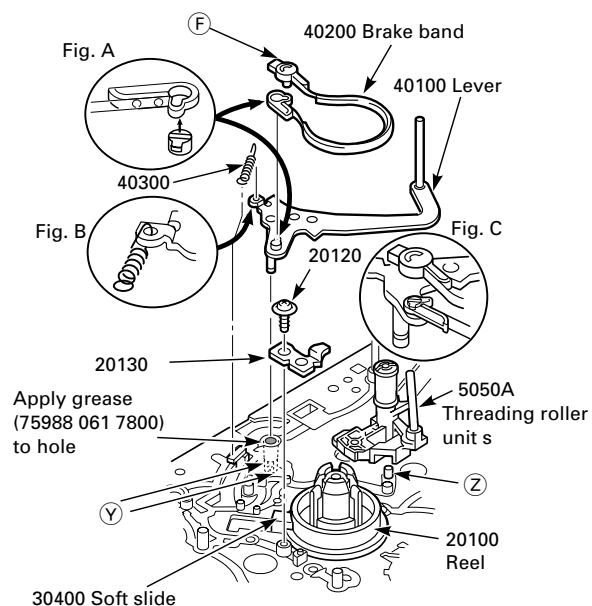

Fig. 8.15
- Undo the screw (20120) and remove the mounting clip of the brake band (20130, Fig. 8.15).
- Disengage the clamp ③ and remove the brake band (40200, Fig. 8.15). Then adjust the other end of the brake band (40200) to the protrusion of the lever as shown in Fig. A and take it off (Fig. 8.15).
- Disengage the hook ④ on the bottom of the cassette mechanism and pull the brake lever out of the guide bushing.
- Grease the guide bushing as shown in Fig. 8.15 (75988 061 7800) and engage the tape tension lever between the threading carriage and the end stop ⑤ into the guide bushing. Hook in the spring (40300) as shown in Fig. B.
- The ends of the brake band must be positioned as shown in Fig. C (Fig. 8.15).
- Undo the screw (20120) and remove the securing angle of the brake band (20130) (Fig. 8.15).
- Undo the hook F and remove the brake band (40200) at this end (Fig. 8.15).